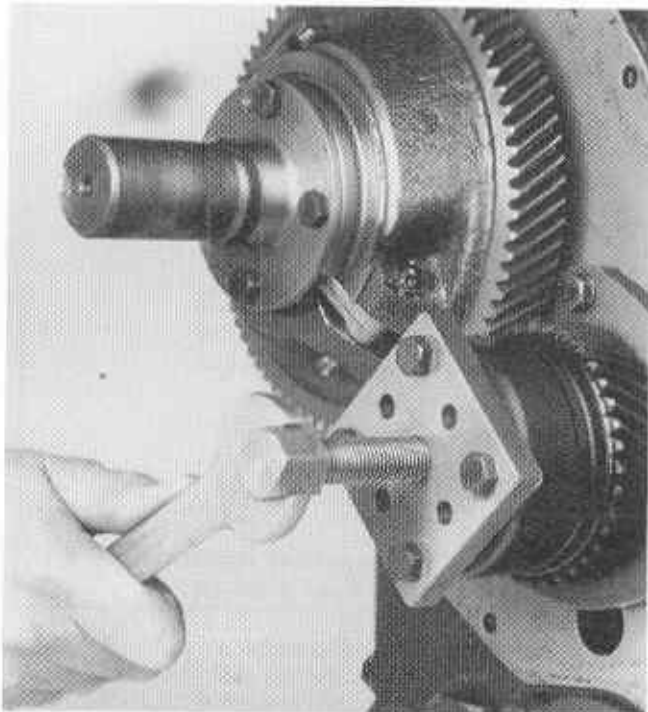
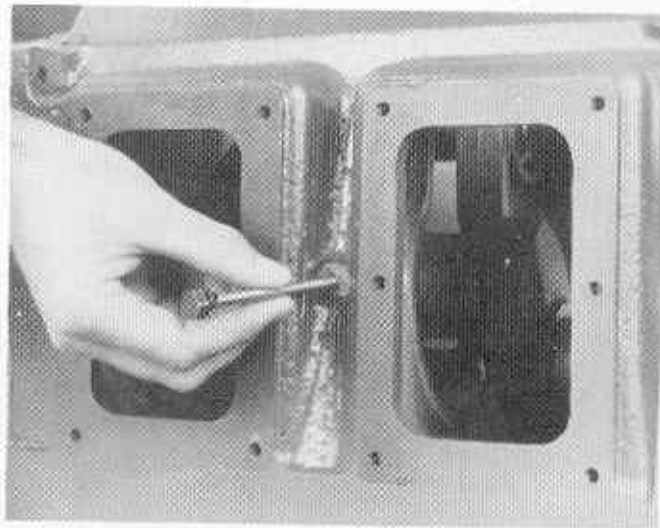

Figure 5.18 Withdrawing the Gearwheel using an Extractor
Figure 5.19 Removing the Intermediate Bearing Housing Locking Screw (PJ2)
- (1) Remove the cylinder head(s) (Paragraph 5.3), cylinder(s) and connecting rod(s) (Paragraph 5.16).
- (2) Remove the flywheel (Paragraph 5.24).
- (3) Remove the gear cover. The gear cover is dowelled to the crankcase.
- (4) Remove the bolt and gearwheel retaining plate from the gear end of the crankshaft. Replace the bolt in the end of the crankshaft to prevent damage to the threads; withdraw the gearwheel using an extractor. (Figure 5.18). A special tool for this purpose can be obtained from Petters Limited or their representatives.
- (5) On the PJ2 engine remove the intermediate main bearing housing locking screw (Figure 5.19) holding the housing in position.
- (6) Mark the balance weights to identify the assembly positions. Unscrew the bolts and remove the balance weights and washers.
- (7) Remove the bolts securing the flywheel end main bearing housing, and withdraw the housing.
- (8) Remove the crankshaft by pulling towards the flywheel end.
- (1) Remove the cylinder heads (Paragraph 5.3), cylinders and connecting rods (Paragraph 5.16).
- (2) Remove the front fan belt guard. Slacken the idler pulley, dynamo or alternator sufficiently to remove the fan belt.
- (3) Remove the set screws securing the crankshaft pulley and withdraw the pulley.
- (4) Remove the rear fan belt guard
- (5) Remove the gear cover and fan assembly complete. The gearcover is dowelled to the crankcase.
- (6) Remove the bolt and retaining plate from inside the crankshaft gearwheel, replace the bolt in the end of the crankshaft to prevent damage to the threads and using an extractor withdraw the gearwheel (Figure 5.18). A special tool for this purpose can be obtained from Petters Limited or their representatives.
- (7) Remove the flywheel (Paragraph 5.24).
- (8) Mark the balance weights to identify the assembly positions. Unscrew the retaining bolts and remove the washers and weights.
- (9) Remove the intermediate main bearing housing locking screw(s) (Figure 5.19).
- (10) Remove the bolts securing the flywheel end main bearing housing, and withdraw the housing.
- (11) Remove the crankshaft by pulling towards the flywheel end.
- (12) Mark the halves of the intermediate main bearing housings to identify the assembly positions and remove the housings. The halves of each housing are machined as an assembly and must not be mixed with those of another housing assembly.